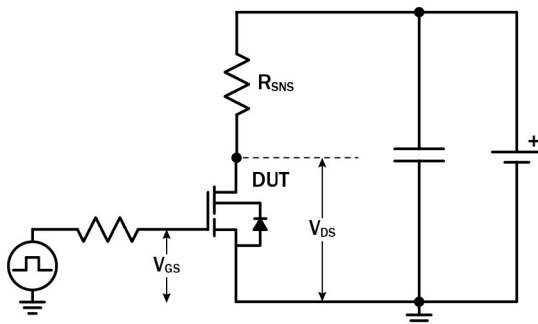

Figure 17. Dynamic $R_{DS(on)eff}$ Test Circuit
* Dynamic on-resistance; see Figures 17 and 18
- Dynamic on-resistance; see Figures 17 and 18 for test circuit and conditions